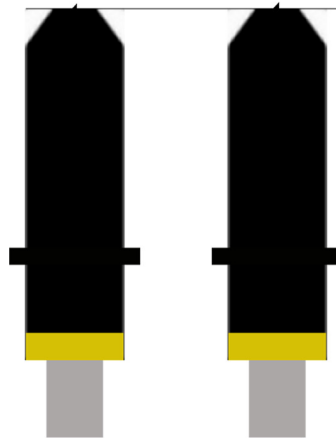

Figure 12
- 4** Use the blade positioning guide shown in figure 12 on page 15 to check the position of your blade. Place the blade next to the picture; the blade in the picture and your blade should match. Because of paper thickness and characteristics of individual machines, you might need to make minor adjustments